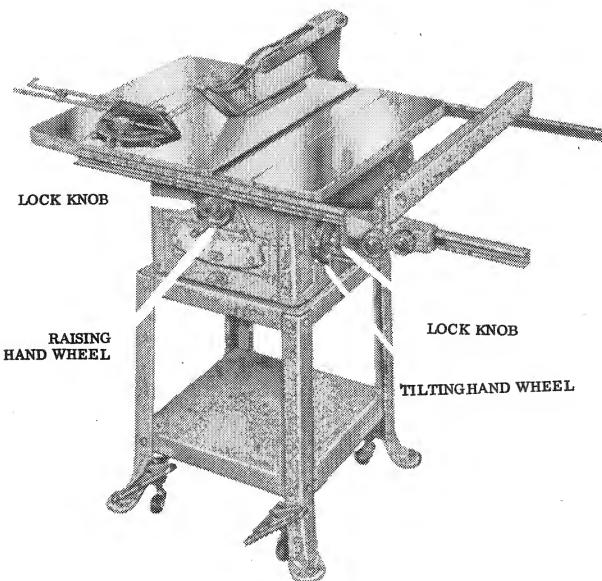

FIG. 1
2. Raise saw blade to proper height by loosening lock knob and turning Raising Handwheel. See Fig. 1 then tighten lock knob.
To raise or lower the saw blade, loosen lock knob and turn raising handwheel Fig. 1. When desired height is obtained, tighten lock knob. We suggest raising the blade above $\frac{1}{8}$ " to $\frac{1}{4}$ " above the top surface of the material being cut. The blade can be raised to a maximum of $2\frac{3}{4}$ " and a positive-stop built right into the saw prevents you from raising the blade beyond this point and damaging the blade and table insert.
To tilt the saw blade, loosen lock knob and turn tilting handwheel. When desired angle is obtained, tighten lock knob. Fig. 1.